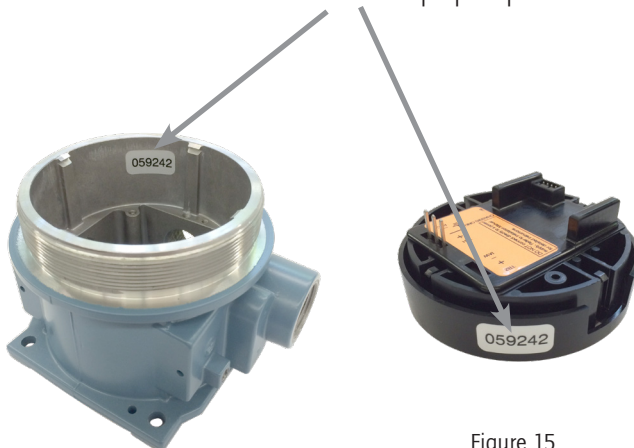

Figure 15
**NOTE:** Do not replace the One Series display module or pressure sensor. Swapping these amongst devices will cause a mis-match between the stored sensor calibration data and the pressure sensor. For proper operation, the display module serial number must always match the serial number inside the enclosure (see Figure 15).